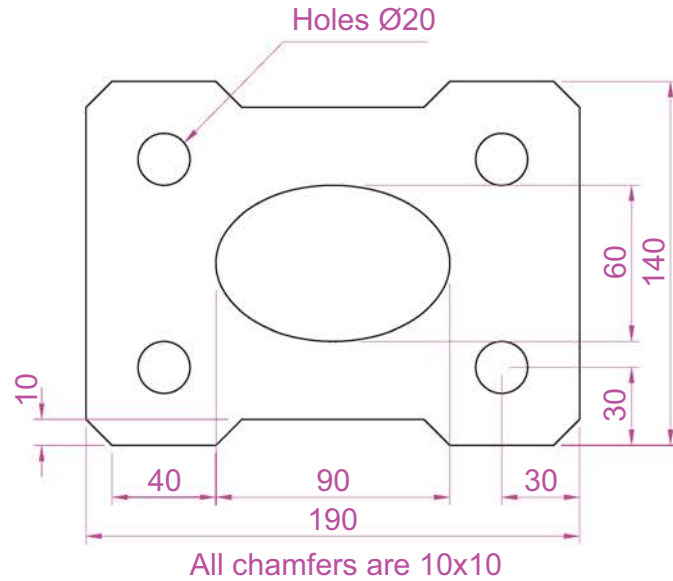

Fig. 18.19 First example – 2D outlines in 3D space
2. On this **3point** UCS construct a 2D drawing of the plate to the dimensions given in Fig. 18.19, using the **Polyline**, **Ellipse** and **Circle** tools.